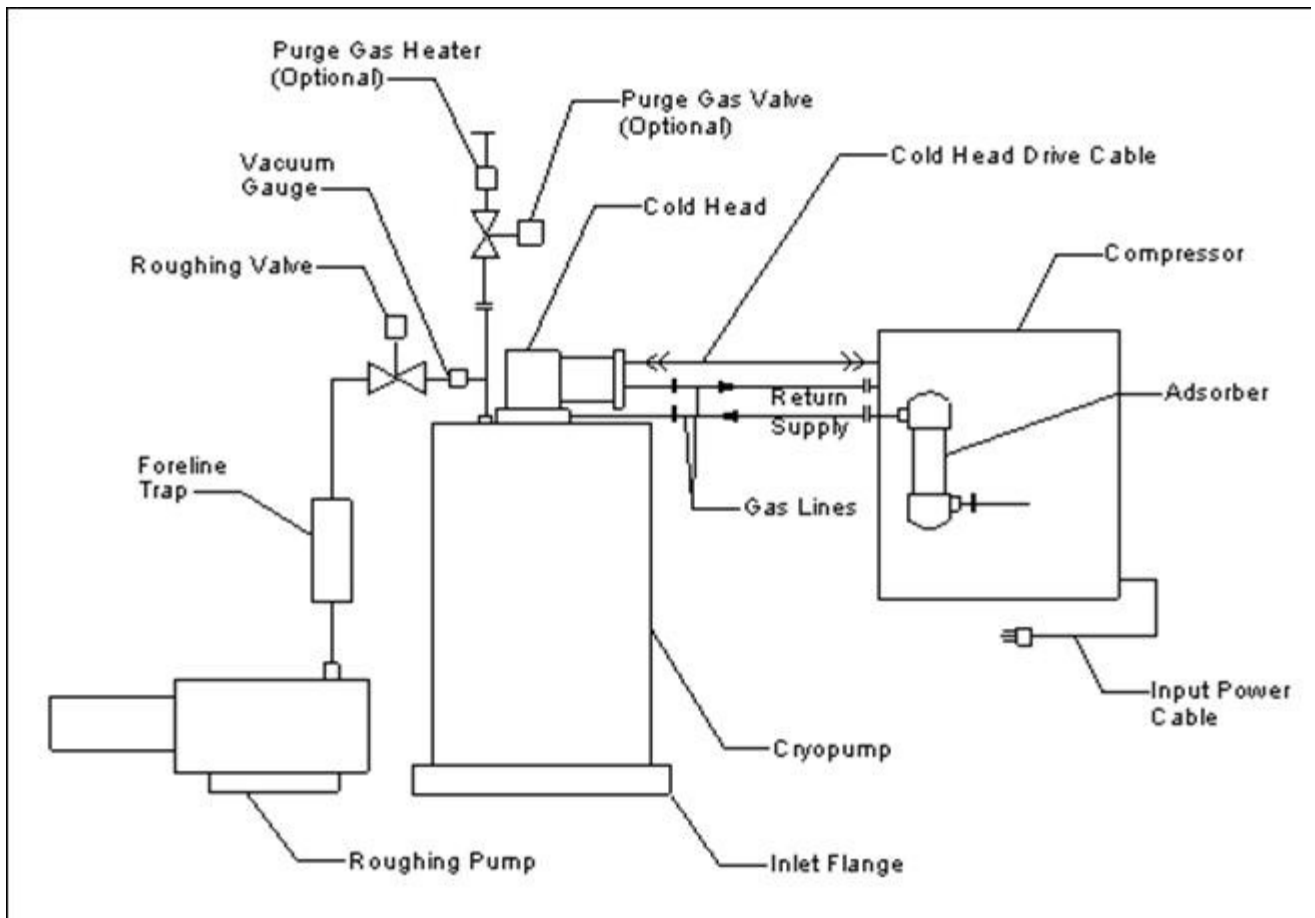

Figure 3 – Connection Diagram
**Figure 3** shows a typical installation diagram when making connections. Follow these steps to install the Cryo-Plex 10 cryopump: